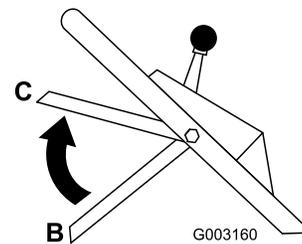

Figure 18
3. Bring the blade control bar up into the middle position about 5 inches (12.7 cm) below the handle cross bar (Position C in Figure 18).
4. Release the blade control bar (Position B in Figure 18).